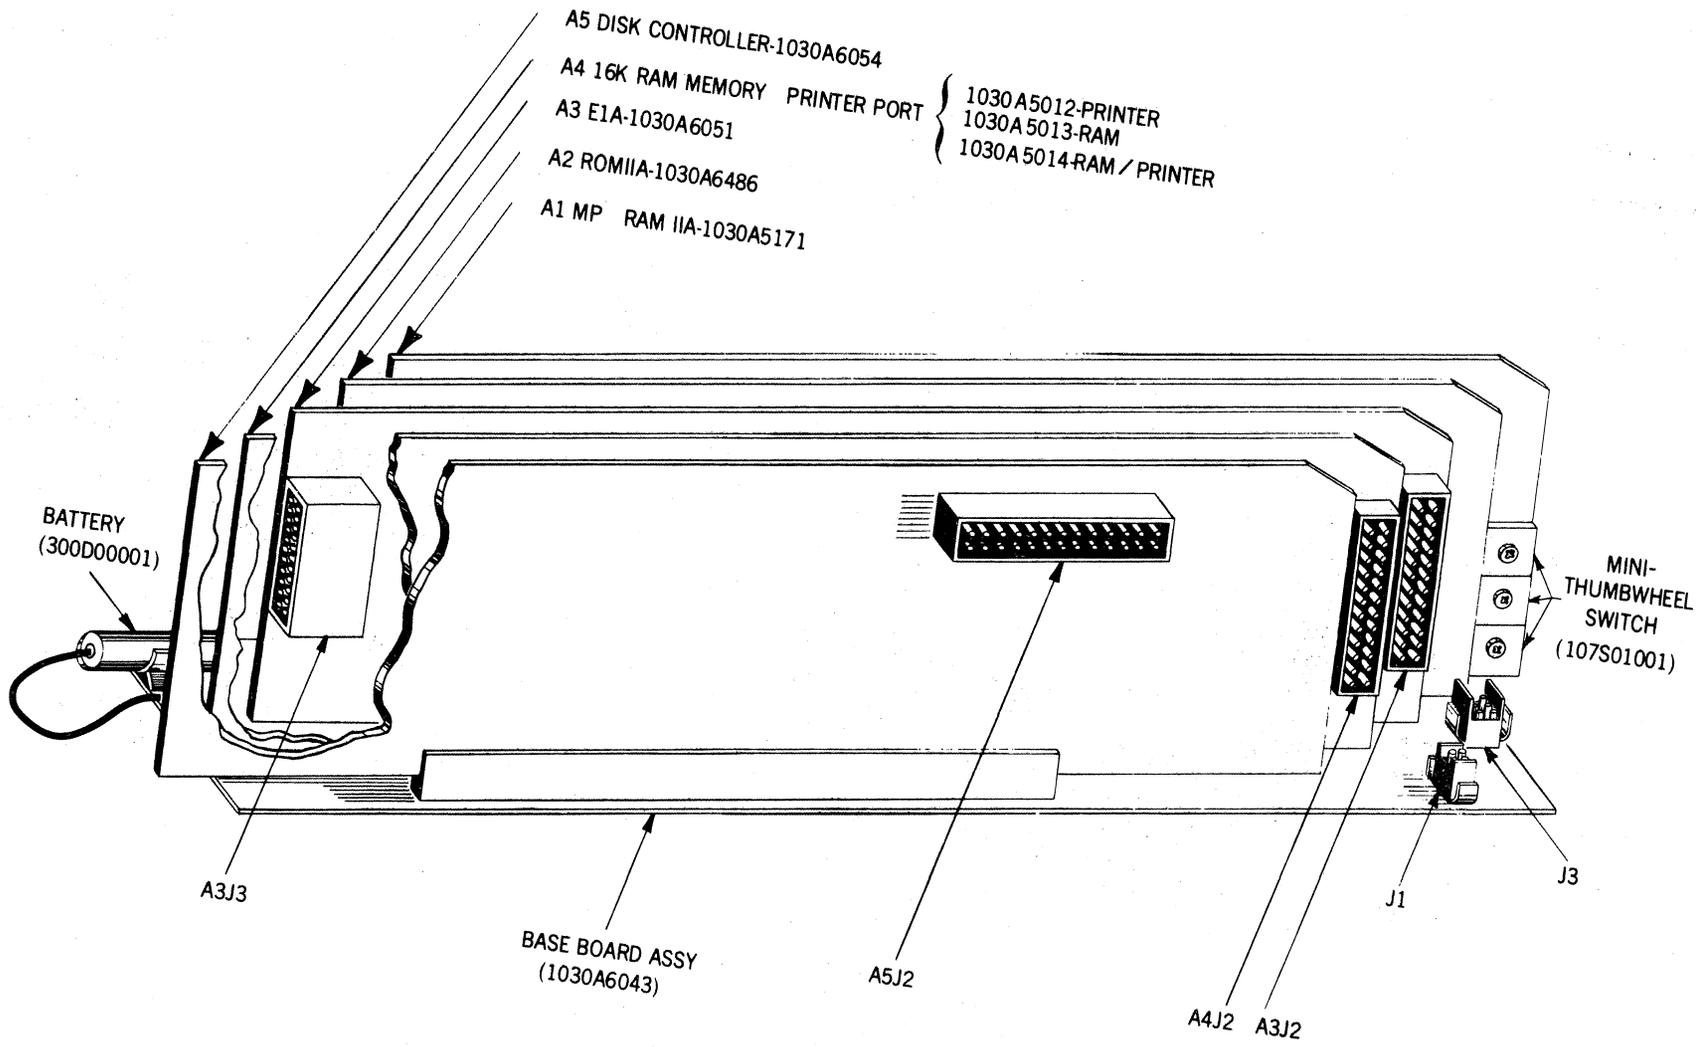

Fig. 9—System Boards - Five Slot Base Board
**2.23** Figs. 9 and 10 show the base board assembly and board slot assignments for the four logic boards and the optional fifth and sixth boards.
**2.29** The battery is attached to the base board assembly (Figs. 9 and 10). Perform the following steps to remove/replace the battery.